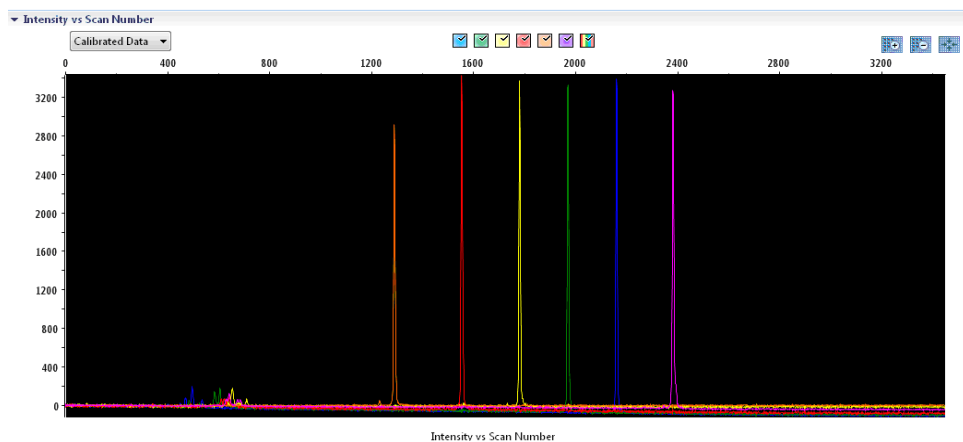

Figure 2. Electropherogram of spectral calibration of the Matrix Standard BT6 on an Applied Biosystems 3500 Genetic Analyzer.
- Check the matrix samples for a flat baseline. As shown in Figure 2, there should be 6 peaks with peak heights of about 1000–6000 RFU for each matrix sample.